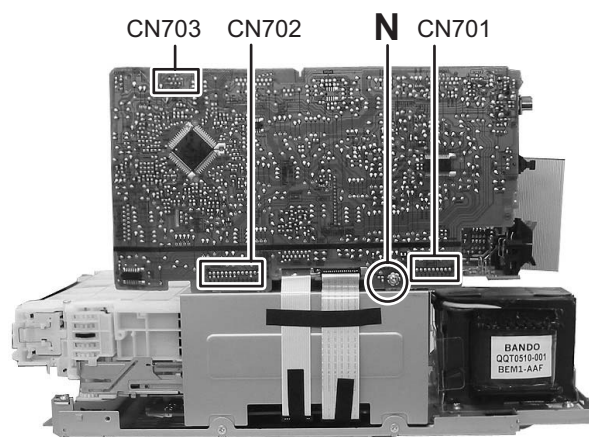

Fig.13
3.1.10 Removing the main board (Fig.13)